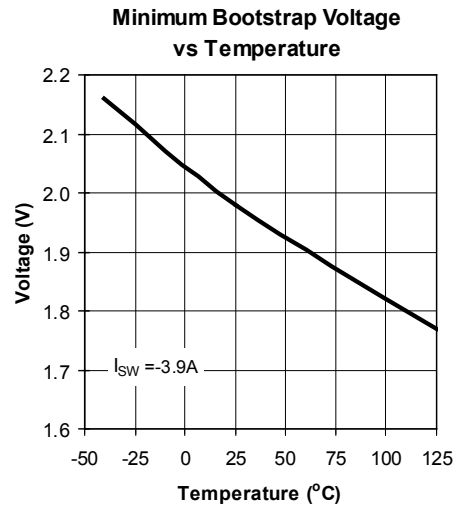

Figure 5. Typical Minimum Bootstrap Voltage required to Saturate Transistor ($I_{SW} = -3.9A$)
The BST-SW voltage is supplied by a bootstrap circuit powered from either the input or the output of the converter (Figure 5). To maximize efficiency, tie the bootstrap diode to the converter output if $V_o > 2.5V$. Since the bootstrap supply current is proportional to the converter load current (Equation (10), page 14), using a lower voltage to power the bootstrap circuit reduces driving loss and improves efficiency.